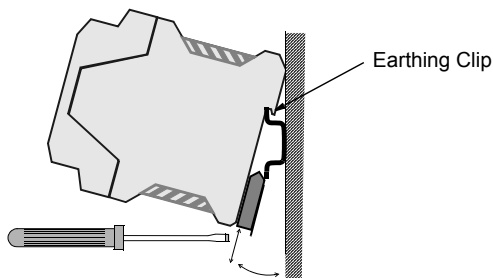

Figure 3-1 Mounting and removing the module.
- Module earth is connected to the mounting rail by means of an earthing clip (see Figure 3-1). The mounting rail onto which the option module is to be mounted must be earthed to a noiseless earth. If the rail is not mounted on a properly earthed base, a separate earthing conductor must be used. The conductor must be as short as possible and the cross-sectional area must be 6 mm2 at least.
3. Push the module onto the rail. The module can be released by pulling the locking spring with a screwdriver (see Figure 3-1).
7. Push the module onto the rail. The module can be released by pulling the locking spring with a screwdriver (see Figure 3-1).